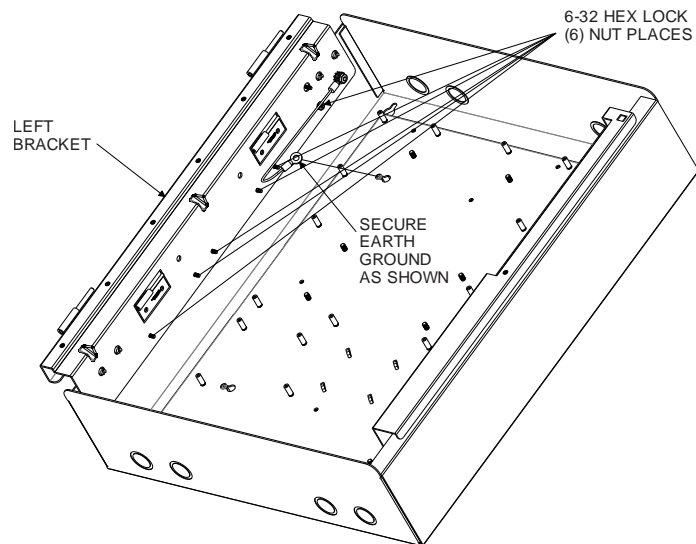

Figure 3: Mounting the Left Bracket
4. Install the left bracket as shown in Figure 3, and then connect the earth ground to the adapter plate.